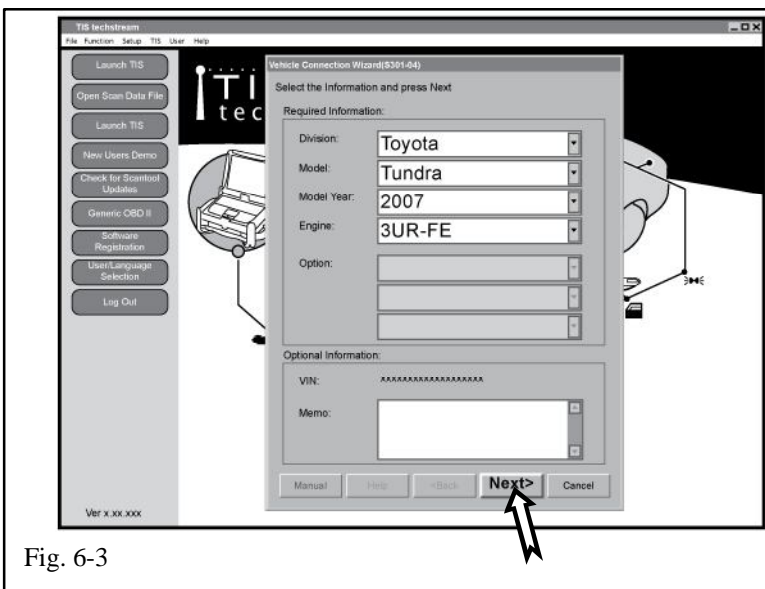

Fig. 6-3
- (e) Confirm that the information displayed on the Vehicle Connection Wizard is correct for the vehicle. If not verify that the Techstream is properly connected. (Fig. 6-3)
- (f) Click "Next>." (Fig. 6-3)